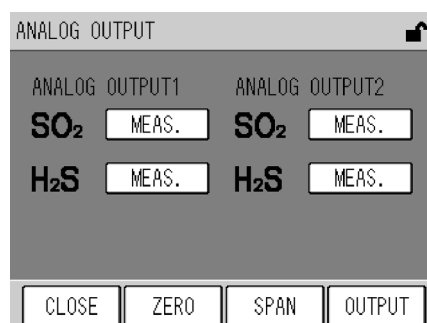

Fig. 60 ANALOG OUTPUT screen
- [ANALOG OUTPUT]: Displays the ANALOG OUTPUT screen (Fig. 60 on page 45).
5. Press the [CLOSE] key to return to the ANALOG OUTPUT screen (Fig. 60 on page 45).